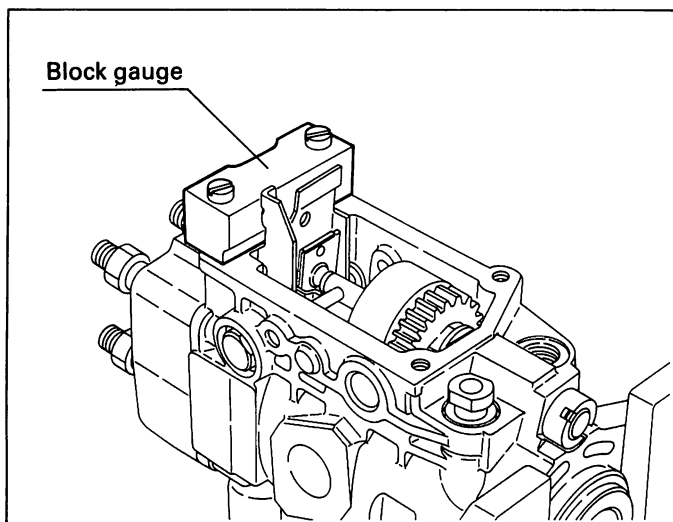

Fig. 87 Installing the block gauge
- 1 Fit a block gauge (157829-1100) to the pump housing using two screws (123) and ensure that the block gauge groove faces the governor lever assembly. (Fig. 87)